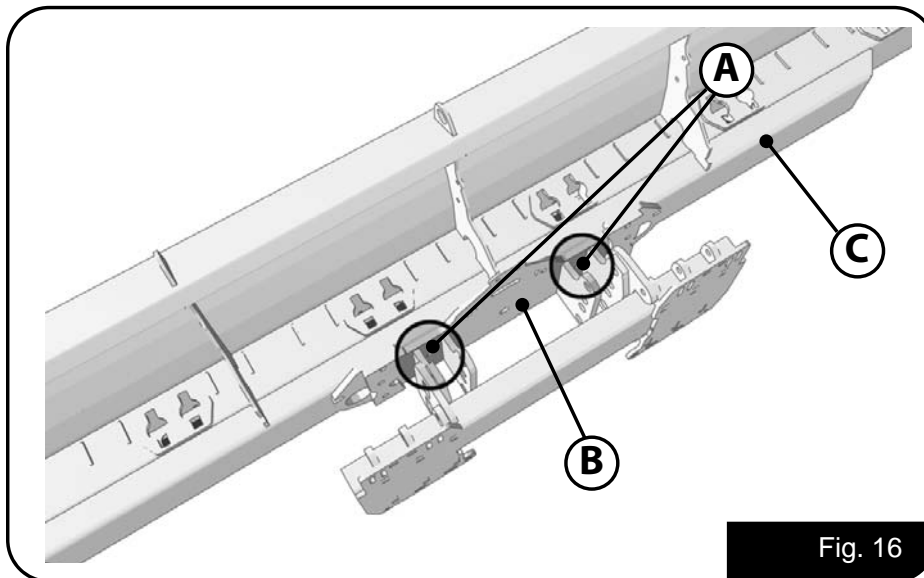

Fig. 16
The central attachment point (Figure 16) for this equipment requires periodic greasing every 50 hours of use.
Find the two(2) greasing points **A** located behind the blade/plow, the two(2) greasing points are located on the plate **B**, itself bonded to the main beam **C**, as shown Fig. 16.